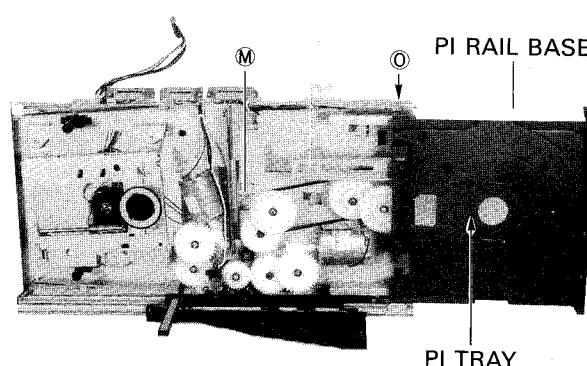

Fig.4
8. Removing the P1 RAIL BASE Ass'y (Fig.4,8)
- 1) Rotate the gear ⑩ clockwise a little.
- 3) Remove the screw ⑩.
9. Removing the P1 RAIL BASE (Fig.4,5,6)